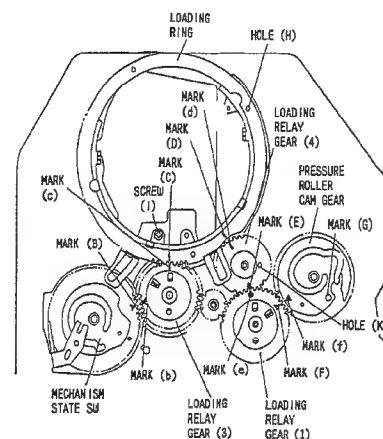

Fig. 3-2
3-2. Loading Gears and Loading Ring (Figs. 3-2, 3-3)
- 1) Align the markings of the loading ring and gears as shown in Fig. 3-2.
- 1) Set the upper and lower loading rings to the state shown in Fig. 3-2. (Watch the guide roller fixing section.)
- 2) Move the upper and lower loading rings so that holes (H) overlap each other.
- 3) If holes (H) overlap each other, the phase of the loading ring is correct.
- 4) If holes (K) overlap each other, the phase of the loading relay gear (4) is correct.